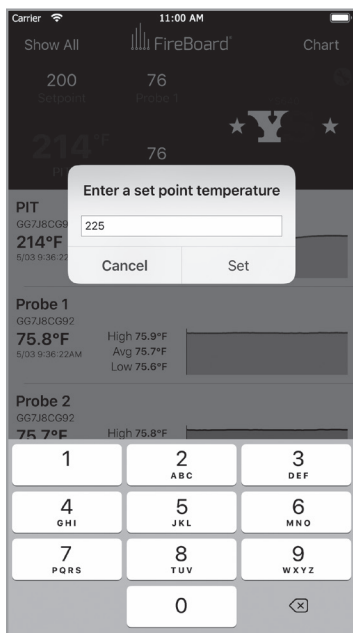

FIG 33
- You can change the pit's setpoint by tapping on the setpoint in the gray banner (**FIG 33**). Simply enter your new desired setpoint and tap the “Set” button. Please note that changes to the setpoint take a few seconds to take effect. Please be patient for them to be reflected in the cooker and in the app's dashboard.